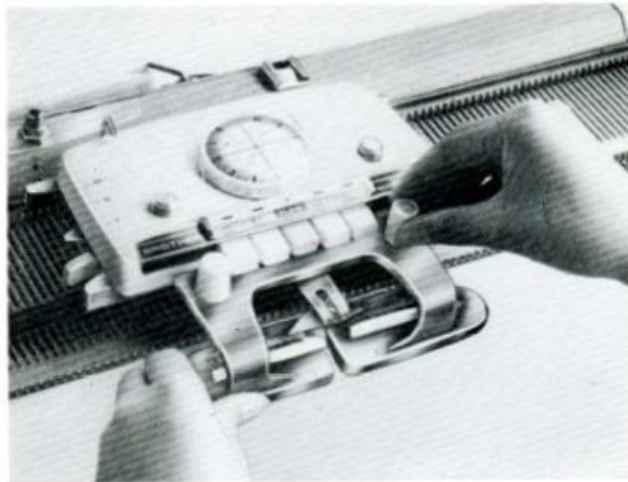

Fig. 14
- a. Remove the sinker plate assembly from the accessory box. Loosen the plastic thumb screws of carriage, insert the sinker plate assembly as far as it will go and fasten the thumb screws securely. (See Fig. 14)